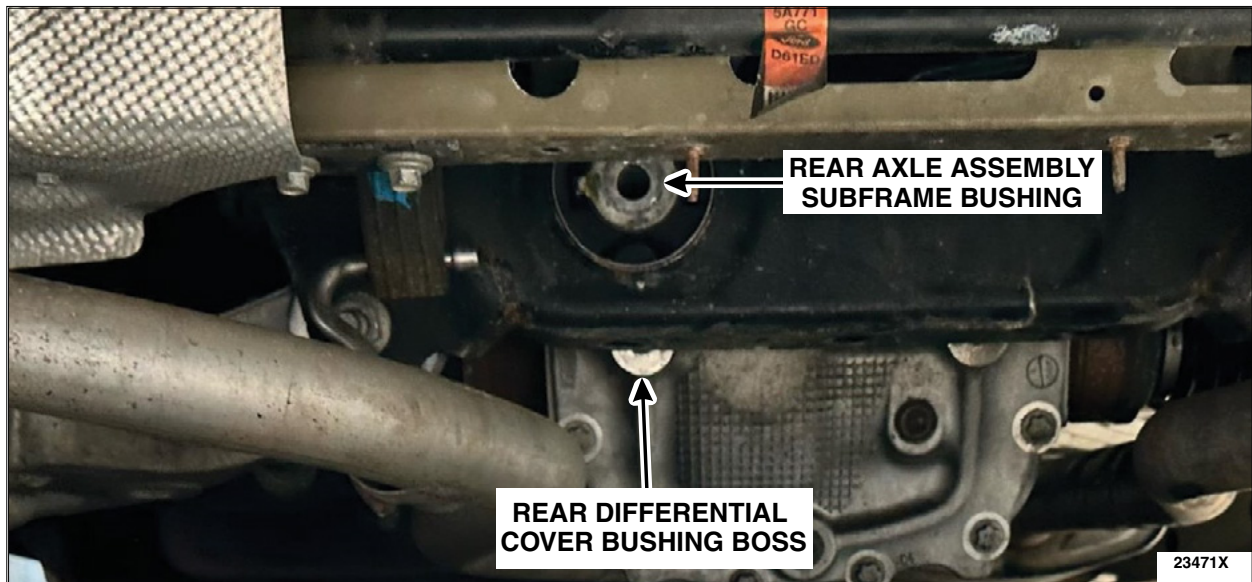

FIGURE 1
2. Ford has requested photo evidence of a broken or missing rear axle bolt for this Customer Satisfaction Program. Visually inspect the Rear Differential Unit (RDU) for a broken or missing RDU fastener. Is the RDU bolt to axle cover bushing boss broken or missing? *See Figure 1 on Page 2.*